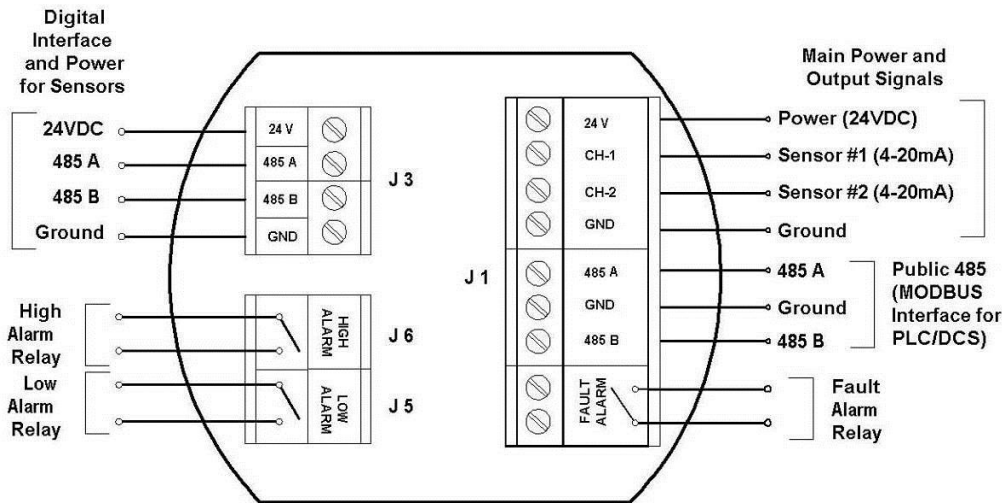
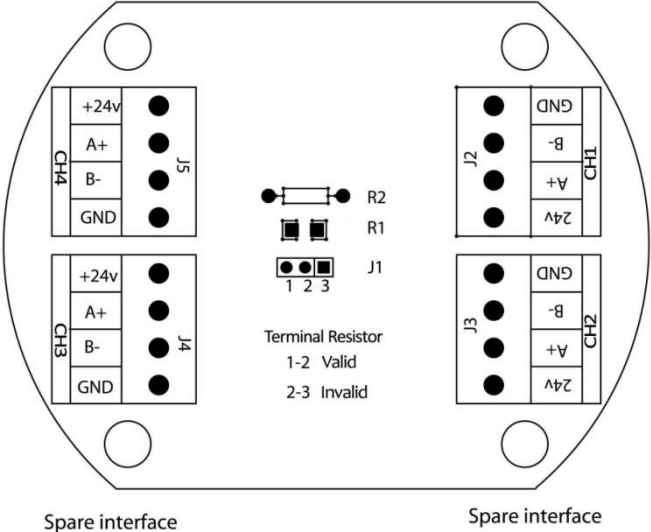
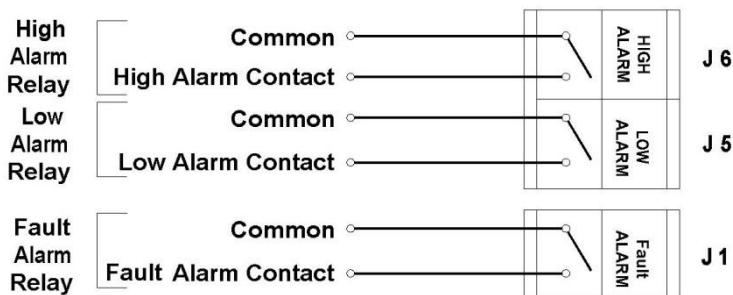

Figure 2-4 Electronics Module for **ITRANS-2** (Main Unit)
Figure 2-5 Electronics Board for TRANS-2 Remote Sensor
Figure 4-1 Alarm Relay Connectors J6, J5 and J1
The electronics module of the **ITRANS-2** gas monitor contains connectors and jumpers for wiring and configuring the device. The electronics module for a main **ITRANS-2** unit is shown in Figure 2-4. The electronics module for a remote unit is shown in Figure 2-5. Wiring details are explained in Chapter 4 | System Wiring.
To connect the **TRANS-2** control wires to the three relay terminals on the relay board, wire the unit to the connectors shown in Figure 2-4. The low alarm relay is activated when the low alarm threshold is met. This is a non-latching, Normally Open (NO) contact. The high alarm relay is activated when the high alarm threshold is met. This is a non-latching, Normally Open (NO) contact. The fault alarm relay is activated upon power-up of the **TRANS-2**. When the fault condition is met, the circuit opens. This is an Electronically closed (NC) contact. See Figure 4-1 for relay wiring.